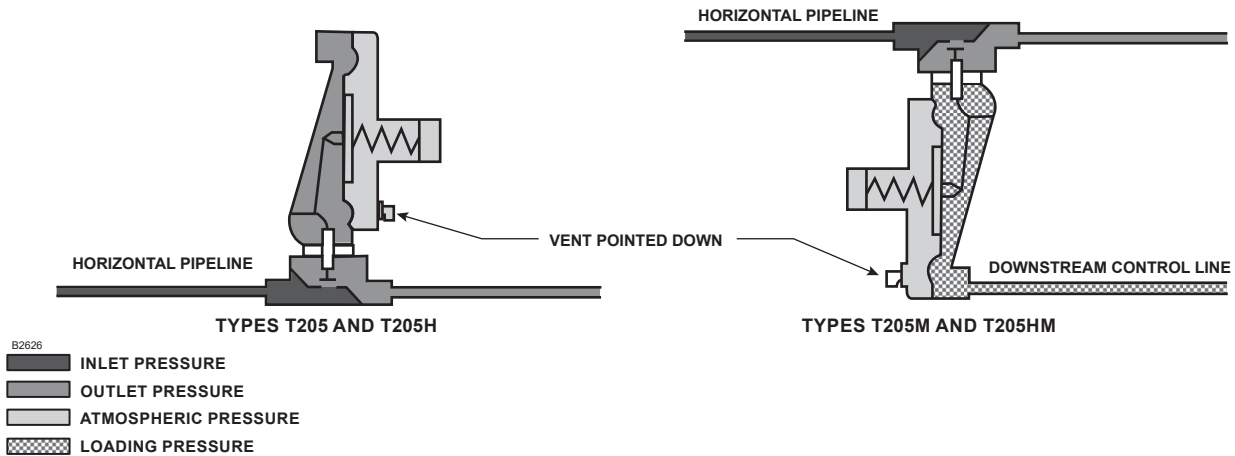

Figure 4. T205 Series Actuator Casing Drainage Schematics
2. The regulator may be installed in any position as long as the flow through the body is in the direction indicated by the arrow on the body. When using a T205 Series regulator, for proper operation to achieve the published capacities at low setpoint, the spring case barrel should be installed pointed down as shown in Figure 1. For complete actuator drainage, the regulator should be installed as shown in Figure 4. If continuous operation of the system is required during inspection or maintenance, install a three-valve bypass around the regulator.